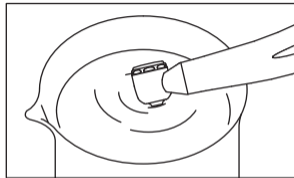

Fig. 6
- 3) Rotate the handpiece and immerse half of the handpiece head. (Fig. 6)